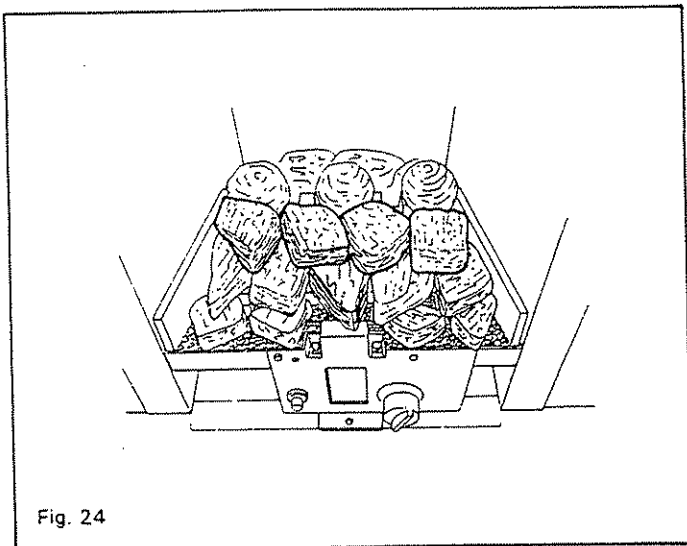

Fig. 24
7.7.5.5 The final four coals should be placed between the rear "round" coals and the bridging coals leaving as many gaps as possible (see fig. 24).